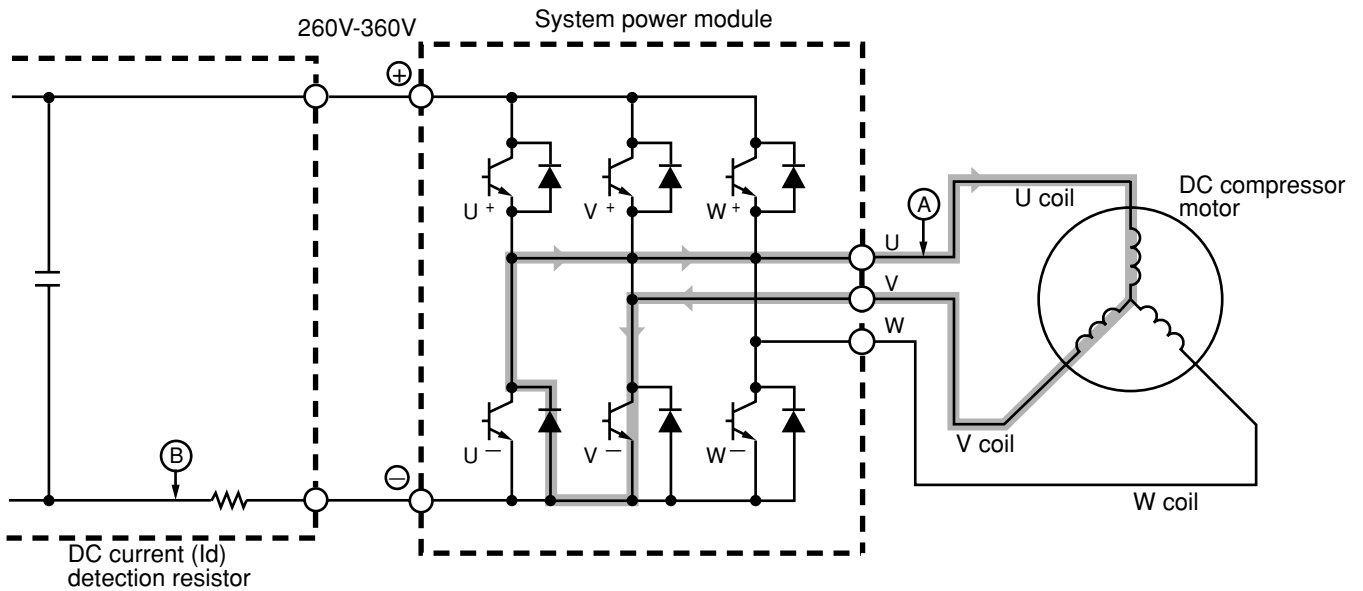

Fig. 3-4 Power module circuit ( $U^+$  is ON,  $V^-$  is ON)
- (2) When U+ transistor is OFF: (by inductance of motor coil) U coil → V coil → V- transistor → Return diode → Point (A) (Fig. 3-4)